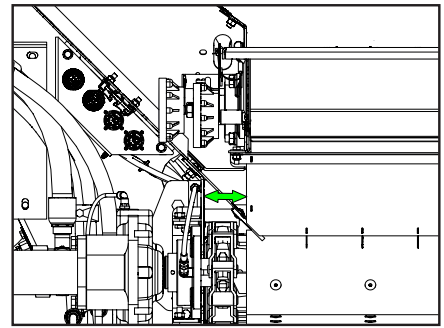

Figure 5
6. Figure 5 - Verify Lower Divider is square by measuring from each side to main bin's chain shields. Make sure distances are equal.